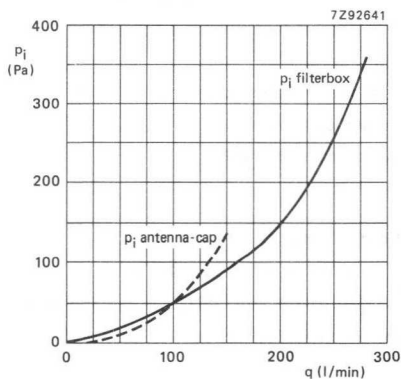

Fig. 2 Pressure drop filterbox and antenna-cap cooling as a function of airflow.
R.F. filter box, see Fig. 2
Antenna, see Fig. 2